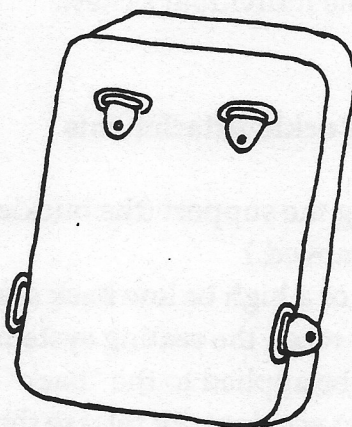

Figure 2
- a. Locate the mounting points of the upper attachments: the D-rings and chafes are to be mounted to the "front" of the back section of the seating system at approximately one inch below the shoulders (see Figure 2). The velcro/D-ring type of attachment can also be used for seating systems with a *low* back section. In this case, there is an option to mount the D-rings to the "back" of the back section if so desired. In both situations, the mounting point must be at the same angle as the top straps of the Custom Trunk Support.